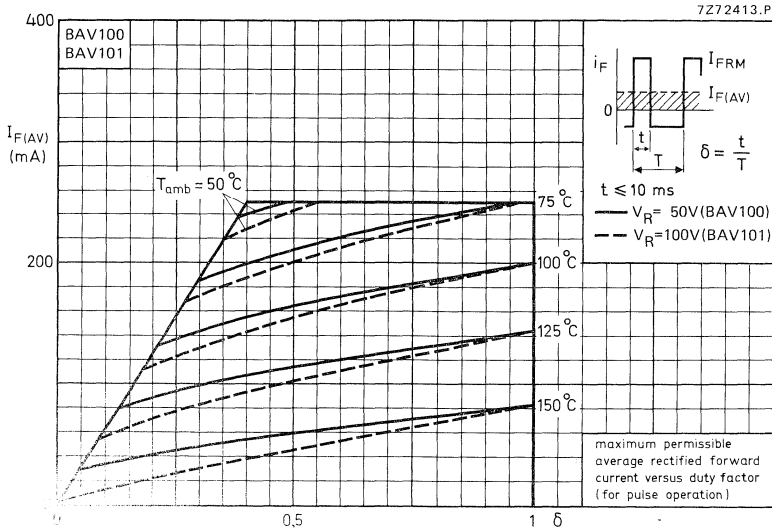

Fig. 3.
1) For sinusoidal operation see Figs 7 to 10. For pulse operation see Figs 3 to 6.